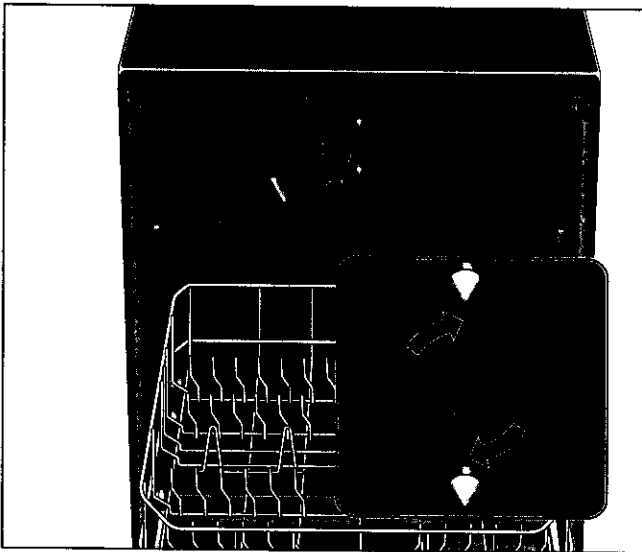

Figure 7.
If you have extra tall items that cannot fit in the lower rack without interfering with the upper spray arm or without hitting the upper rack, the upper rack may be removed. A special "Extra Tall Item Sprinkler" is provided with the dishwasher to allow use of the dishwasher with upper rack removed. See figure 7.
2. Place the "Extra Tall Item Sprinkler" over the upper rack spray outlet at the back of the dishwasher tub (refer to figure 7) and turn clockwise to lock sprinkler head in place.